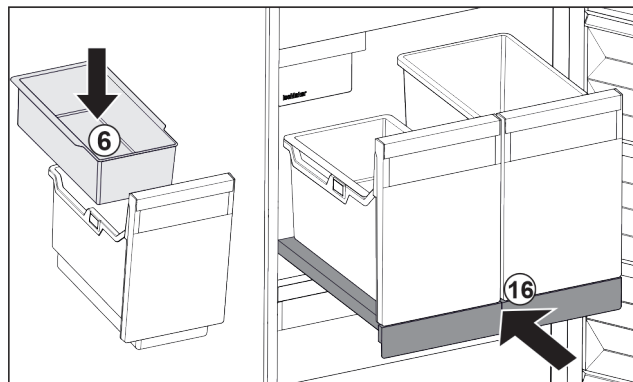

Fig. 30
- Insert hang-on tray Fig. 30 (6) for ice cubes.
- Slide in the pull-out board with container (IceTower). Fig. 30 (16)